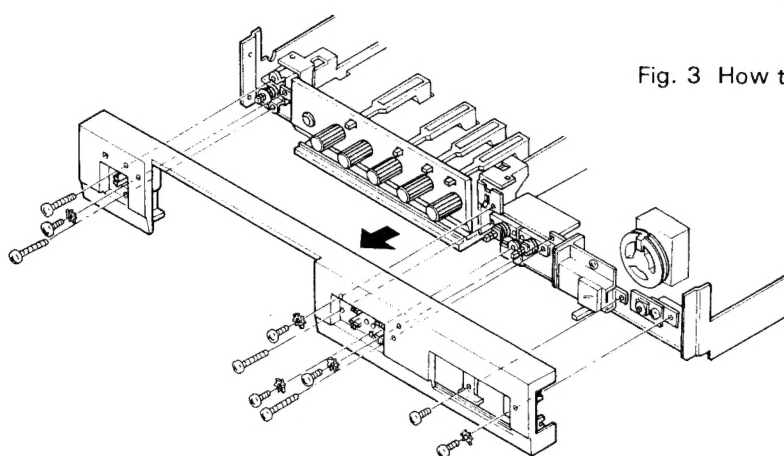

Fig. 4 How to remove knobs and panel (2)
10. Remove the screws on the front panel hidden behind the knobs from the front. (Fig. 4)